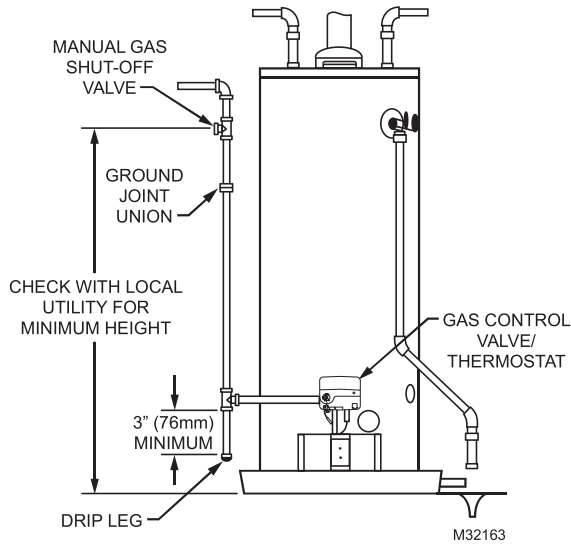

Fig. 1. Gas Piping.
1. To avoid dangerous accumulations of fuel gas, turn off gas supply at the appliance service valve before servicing. The gas supply valve is typically located beside the water heater. Note the position of the shut-off valve in the open/on position then proceed to turn it off. (See Figure 1)
8. Disconnect the ground joint union in the gas piping. Disconnect the remaining pipe from the gas control valve/thermostat (See Figure 1).